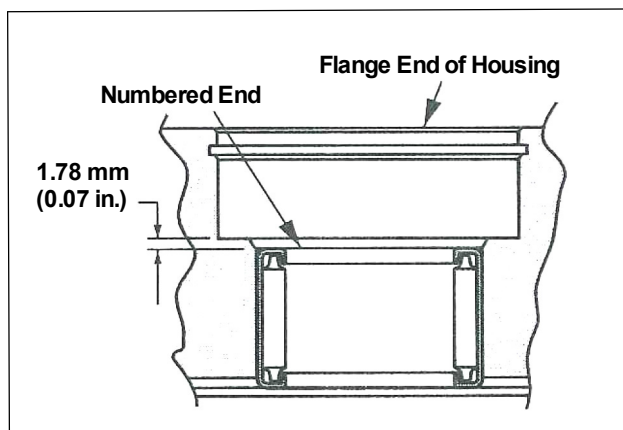

Figure 5-91. Housing Inspection
- Check the bearing (press fit) in housing. If needles remain in cage, move freely, and setting at the dimension shown in Figure 5-91., removal not required.
2. If necessary, press new bearing in housing to dimension shown in Figure 5-91., with the numbered end of bearing outward.